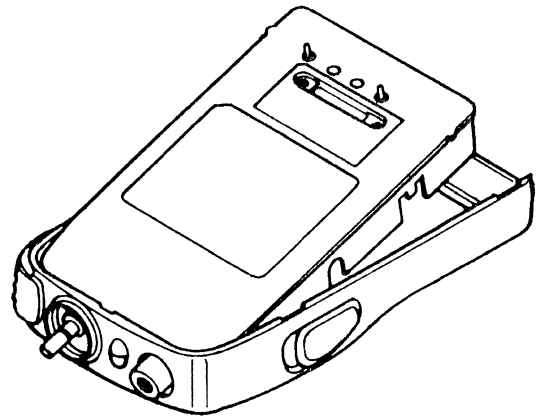

Figure 3.
- Grasp the transceiver with both hands, then gently remove the internal assembly from the case using by pressing on it gently with even pressure from both thumbs, then sliding out from the case at an angle (Fig. 3).